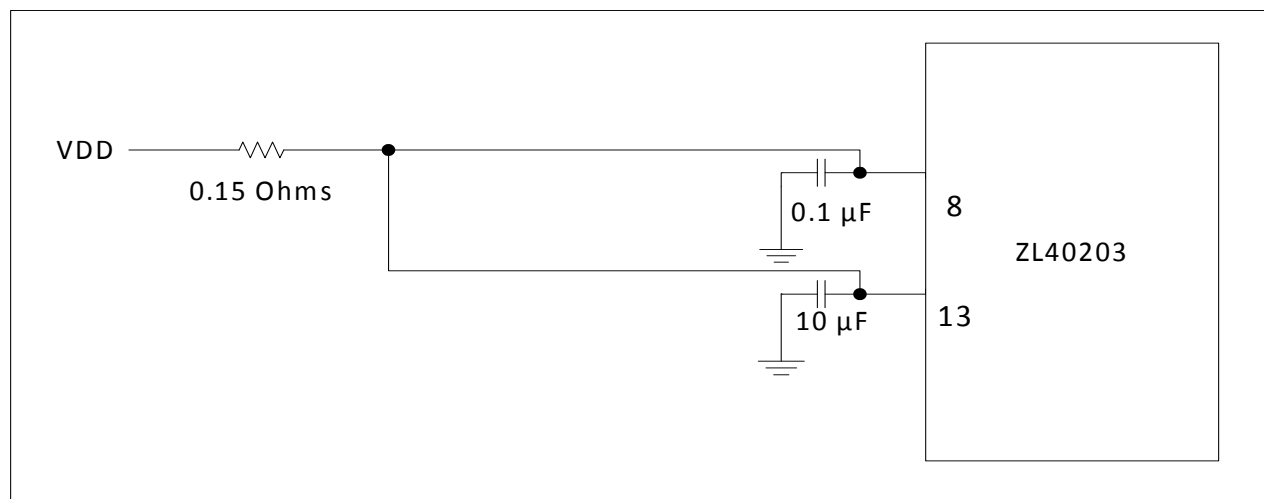

Figure 19 - Decoupling Connections for Power Pins
| Figure 19 - Decoupling Connections for Power Pins | 15 |
For optimal jitter performance, the device should be isolated from the power planes connected to its power supply pins as shown in Figure 19.
- a 0.15 ohm resistor is recommended for the filter shown in Figure 19
The power nets in Figure 19 can be implemented either as a plane island or routed power topology without changing the overall jitter performance of the device.